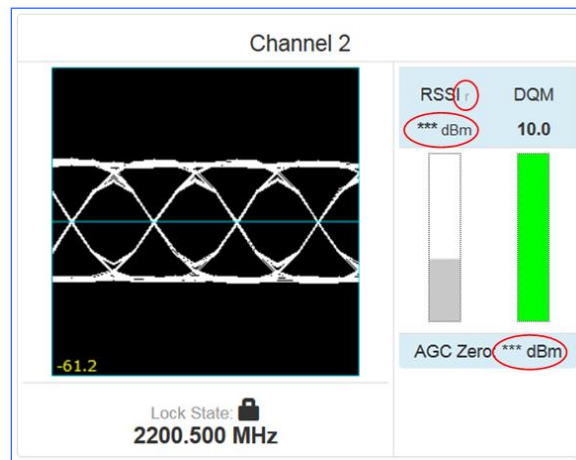

Figure 192: Signal Graph and Signal Indicators Windows, Zero AGC RSSI Display "Relative"
- "*** dBm" displayed (Figure 192) indicates AGC is not zeroed and the value is invalid